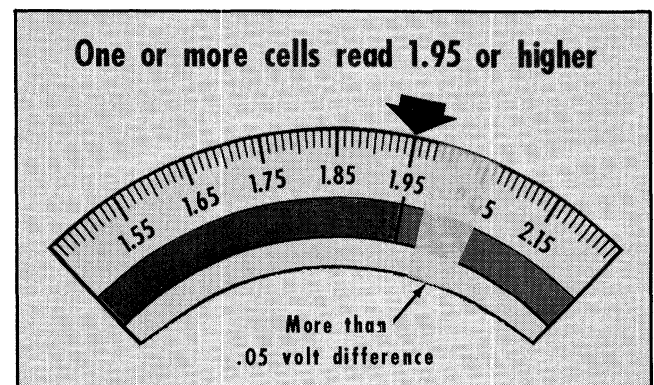

Fig. 11-7 Poor Battery - Replace
c. Poor Battery — Replace (Fig. 11-7)